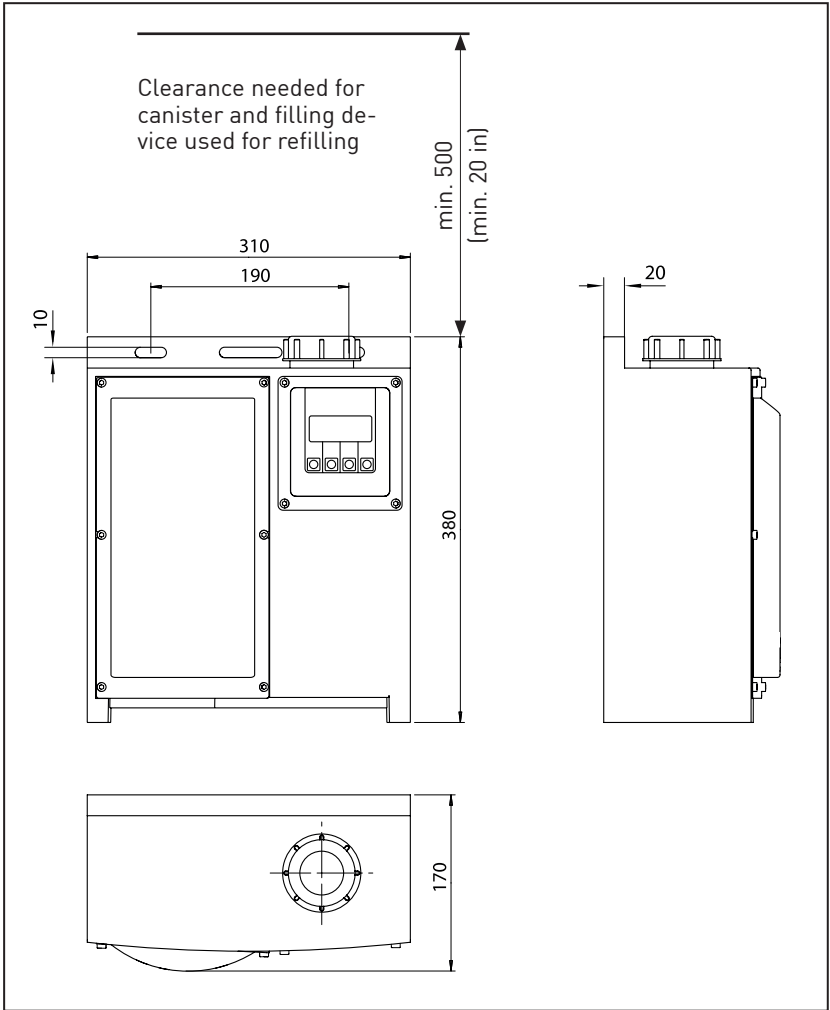

Fig. 3-3: External dimensions in mm
- Pay attention to the required clearance for the filling container and the filling device (Fig. 3-3).
- Bore the holes horizontally at a distance of 190 ± 5 mm (7.48 ± 0.2 in) according to fig. 3-3 and fix the system with screws. Finger tighten screws and add a quarter turn.